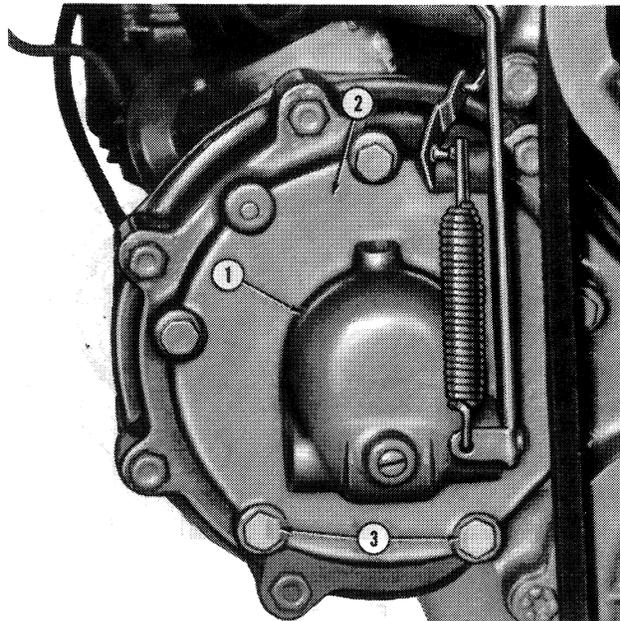

Figure 31
1. Disconnect the governor lever linkage, Figure 31.